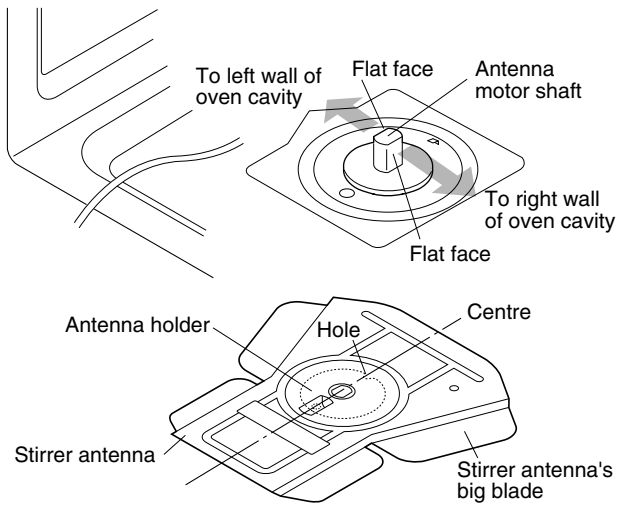

Figure C-9. Derection of Antenna Motor Shaft and Stirrer Antenna Assembly
1. Install the antenna motor shaft into the hole of the oven cavity bottom plate, and turn the flat faces of antenna motor shaft to the left and right side walls of oven cavity (to fit the stirrer antenna holder). Refer to Figure C-9.
2. Set the direction of the stirrer antenna and antenna holder so that the hole of the antenna holder fit to the centre of the stirrer antenna's big blade. Refer to Figure C-9.